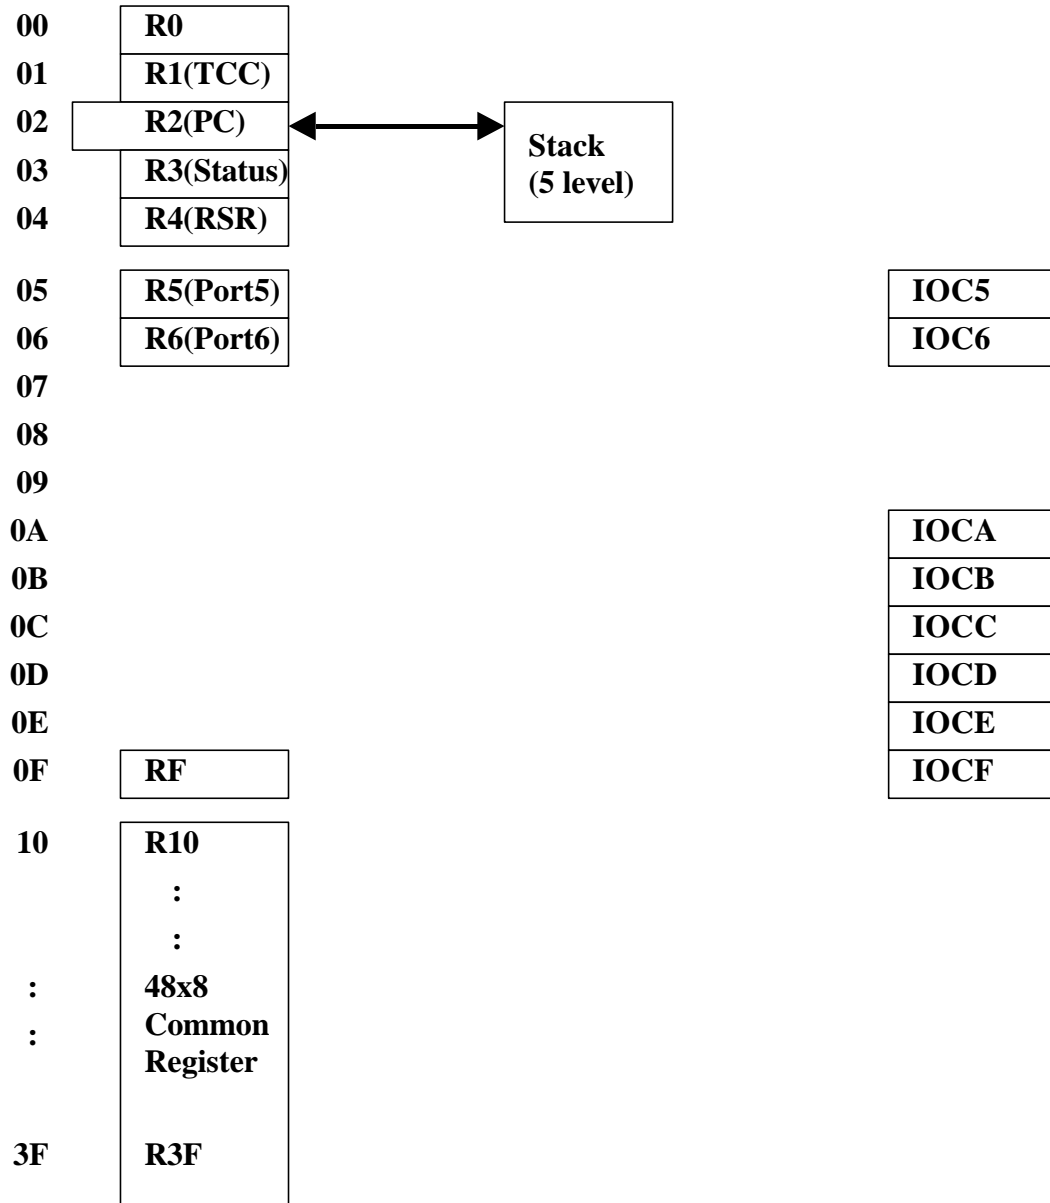

Fig. 4 Data Memory Configuration
- See the configuration of the data memory in Fig. 4.